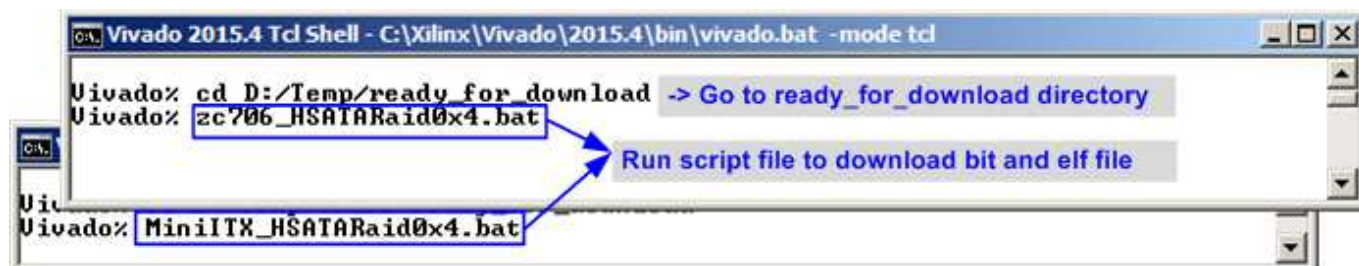

Figure 2-8 Command script for download demo file to ZC706/Mini-ITX by Vivado tool
- a) For ZC706/Zynq Mini-ITX board, open Vivado TCL shell, change current directory to ready\_for\_download. Next, run xxx\_HSATAraid0x4.bat as shown in Figure 2-8. For example, type zc706\_HSATAraid0x4.bat, zcu102\_HSATAraid0x4.bat, MiniITX\_7z045(or 7z100)\_HSATAraid0x4.bat.